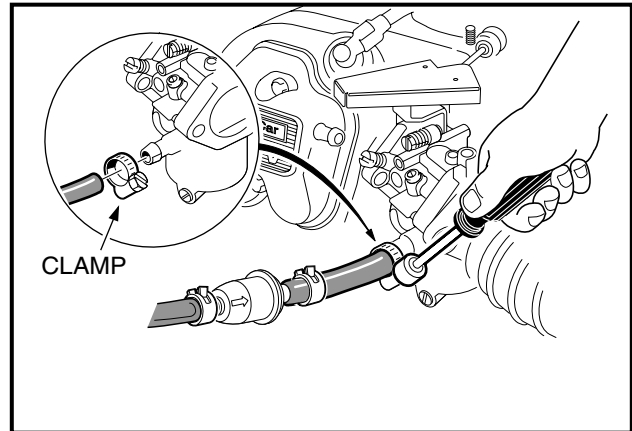

Figure 16b-111 Connect Fuel Line
30. Connect the impulse line to the fuel pump and secure it with the hose clamp (**Figure 16b-112, Page 16b-47**).